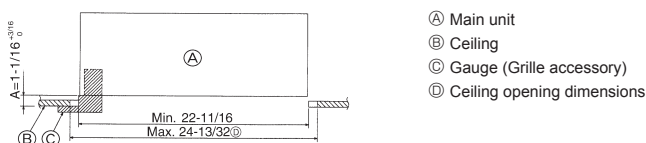

Fig. 3-6
- When the main unit can not be aligned against the mounting hole on the ceiling, it is adjustable owing to a slot provided on the mounting plate. (Fig. 3-6)